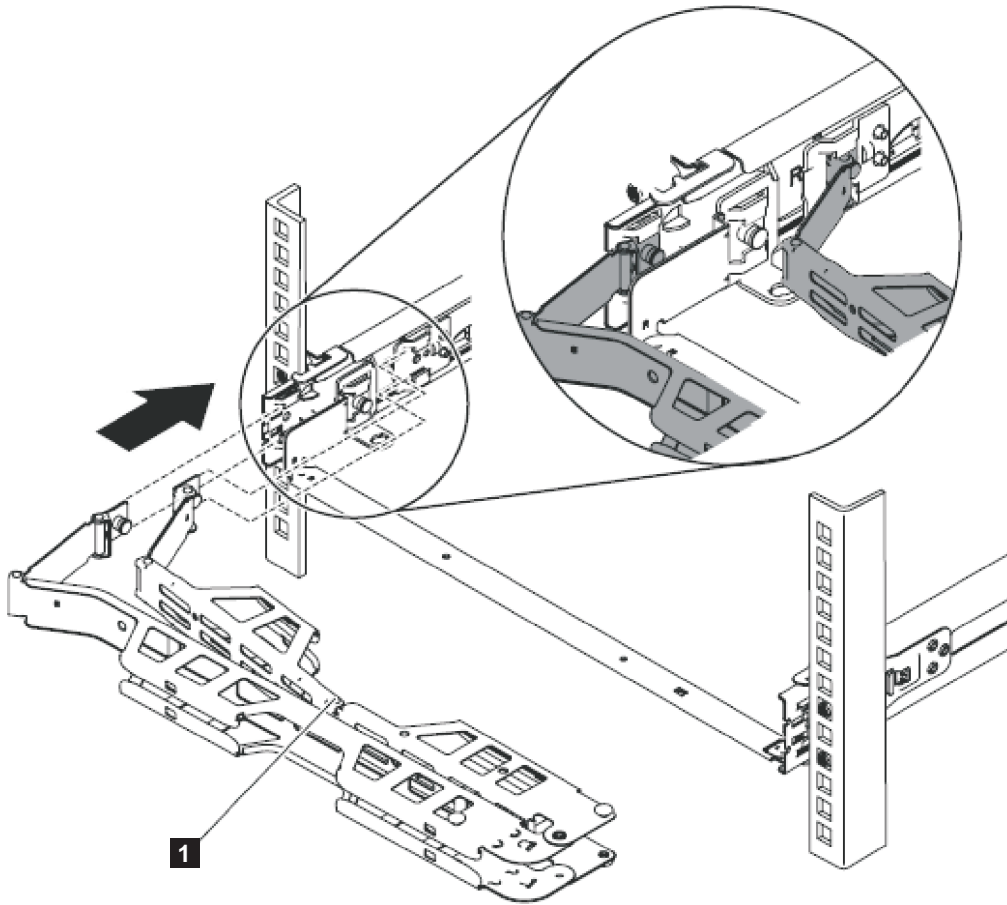

Figure 27. Installing the cable-management arm
2. Install the cable management arm, as shown in Figure 27 on page 28.
**Note:** Make sure that the junctions on the arm, as shown by **1** in Figure 27, are facing the SAN Volume Controller 2145-CG8.